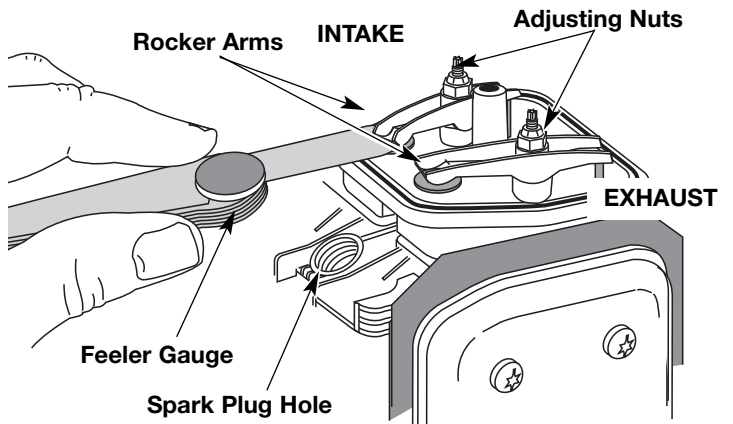

Fig. 33
- The piston is at the top of its travel. Look in the spark plug hole to view the piston (Fig. 33).
7. Slide the feeler gauge between the rocker arm and the top of each valve stem. Measure the clearance between the valve stem and rocker arm (Fig. 33). Measure both the intake and exhaust valves.
The recommended clearance for both intake and exhaust is .003 – .006 in. (.076 – 0.152 mm). Use a standard automotive .005 in. (0.127 mm) feeler gauge. The feeler gauge should slide between the rocker arm and valve stem with a slight amount of resistance, without binding. See Figures 33 and 34.
- a. Turn the adjusting nut using a 5/16 inch (8 mm) wrench or nut driver (Fig. 33).